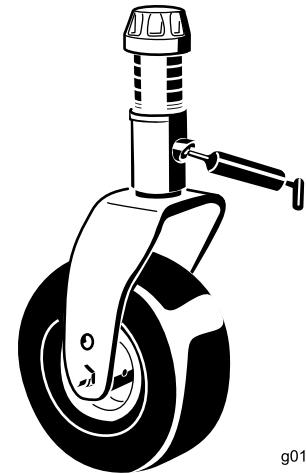

Figure 61
- 2 castor-fork-shaft bushings (Figure 61)